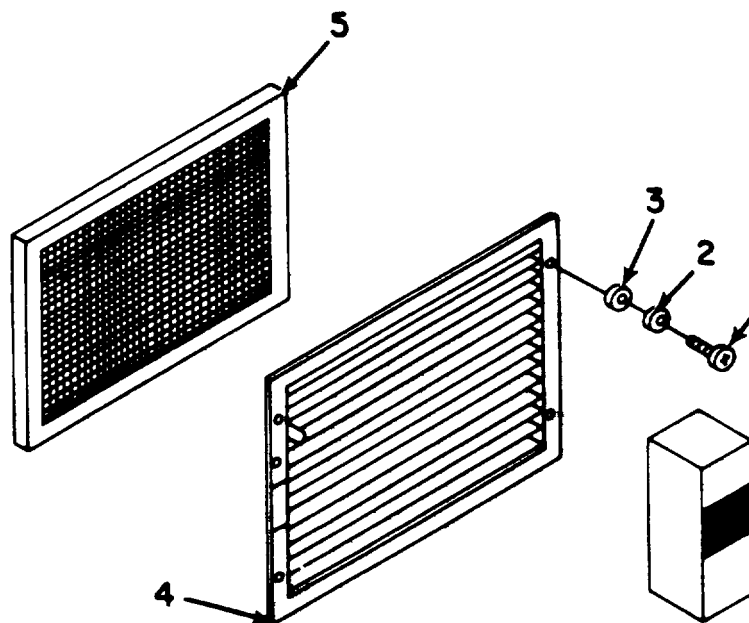

Figure 4-11. Return Air Filter.
a. REMOVAL. Remove air filter (5) from clip inside casing. See Figure 4-11.